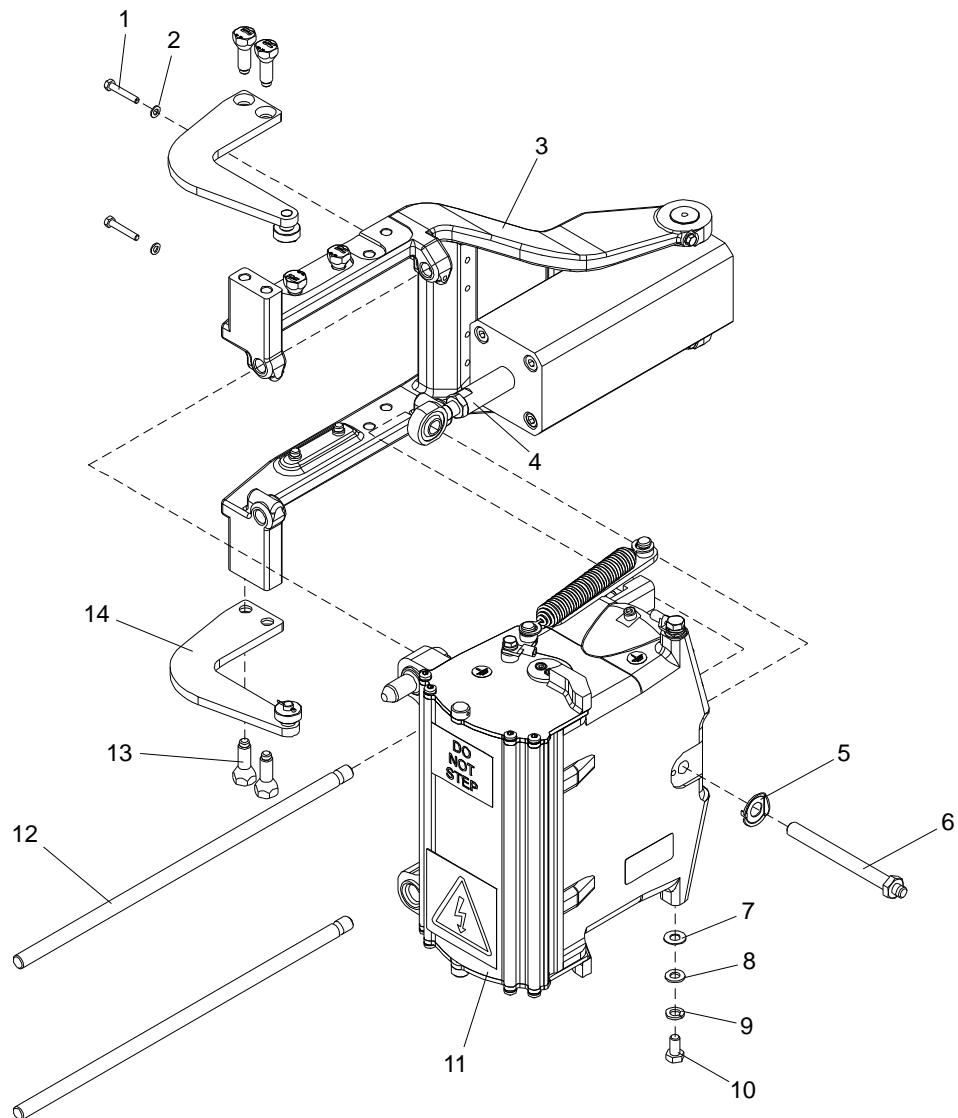

Figure 7-12: Replacement of Electrical Coupler Left / Right
3. Disconnect the ground cable by removing the screw (10), lock washer (9), washer (8), and bi-metallic washer (7). See Figure 7-12.
4. Remove the screws (13) and arms (14).
5. Bend down the corner of the locking washer (5).
6. Remove the connection screw (6) and locking washer (5) to disconnect the electrical coupler (11) from the piston rod (4).
8. Remove the two screws (1) and washers (2). Pull the two guide pins (12) out of the electrical coupler actuator (3) and remove the electrical coupler (11).
2. Carefully position the electrical coupler (11) to the electrical coupler actuator (3) and mount the two guide pins (12). See Figure 7-12.
3. Install the two washers (2) and screws (1).
4. Connect the piston rod (4) to the electrical coupler (11) and mount the locking washer (5) and connection screw (6). Bend corner of the locking washer (5) up against the connection screw (6).
5. Mount the arms (14) and mount the screws (13). Tighten the screws (13) to 30 Nm (22 ft-lbs).
6. Fit the bi-metallic washer (7) and ground cable and mount the washer (8), lock washer (9) and screw (10).